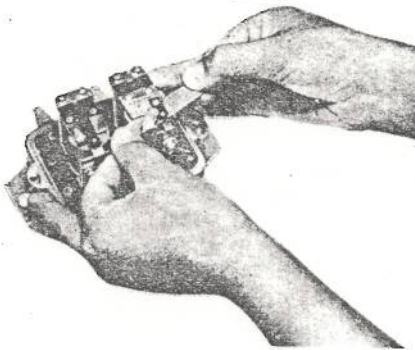

Fig. 10-139
- 1) Fouled contact points should be cleaned with abrasive paper and wiped with clean cloth. Replace the contacts points if the wear is significant. (Fig. 10-139)